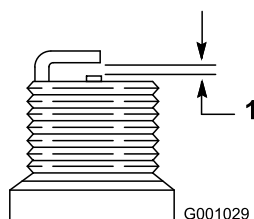

Figure 59
7. Set the gap between the electrodes on a new spark plug at 0.030 inch (0.76 mm) (Figure 59).